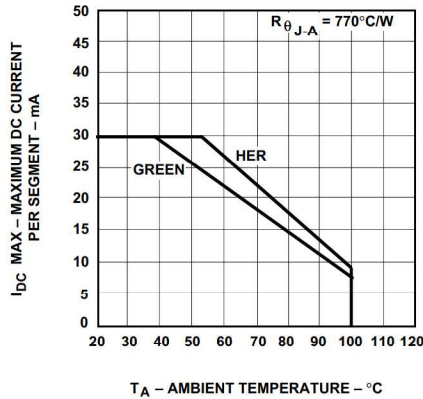

Figure 12. Maximum Allowable DC Current vs. Ambient Temperature.
4. Derate above 53°C at 0.45 mA/°C (see Figure 12).
6. Derate above 39°C at 0.37 mA/°C (see Figure 12).